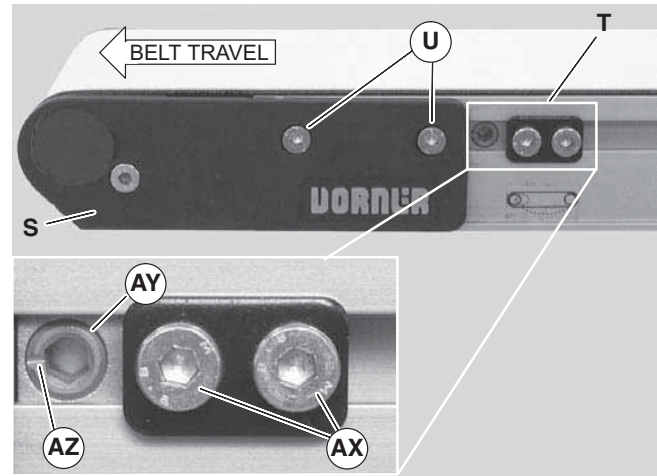

Figure 29
Non V-guided belt conveyors are equipped with belt tracking cam assemblies (Figure 29, item T) for belt tracking adjustment.
- Ensure head plate fastening screws (Figure 29, item U) on both sides of conveyor are tightened.
- On both sides of conveyor, loosen two (2) cam fastening screws (AX). Adjust cams (AY) until indicator slots (AZ) are horizontal and facing end of conveyor. Then slide cam assemblies against head plates (S) and re-tighten cam fastening screws (AX) to 60 in-lb (7 Nm).
- On the side toward which the belt is tracking, loosen head plate fastening screws (U).
- With the conveyor running, use a 5 mm hex-key wrench to rotate the tracking cam (AY) in small increments until the belt tracks in the center of the conveyor. Then while holding the cam in position, re-tighten the head plate fastening screws (U) with a 4 mm hex-key wrench to 60 in-lb (7 Nm).